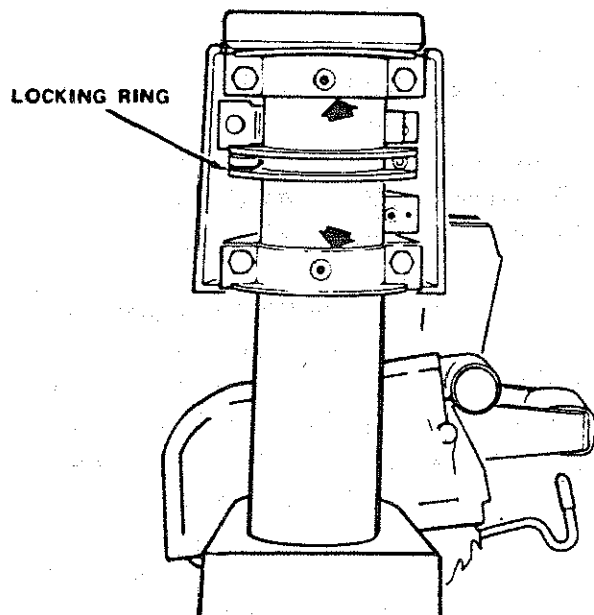

Fig. 121 - Bearing Points Where Arm Attaches to Column Tube
- Apply a few drops of oil along the *swivel index pin* and the *bevel index pin* only if the pins have a tendency to stick. Swivel to in-rip or out-rip for easy access to the *swivel index pin*. Bevel to 45° and *bevel index pin* can be easily accessed behind the *yoke* as illustrated. (Figure 121)
•Lubricate the bearing points where the *arm* attaches to the *column tube*. With a #2 Phillips screwdriver remove two screws and the rear arm cover for access to these points. Be careful not to get lubricant on the *locking rings* as this will adversely affect the miter locking function. (Figure 121)